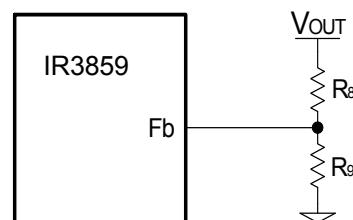

Fig. 12. Typical application of the IR3859 for programming the output voltage
When an external resistor divider is connected to the output as shown in figure 12. Equation (6) can be rewritten as: